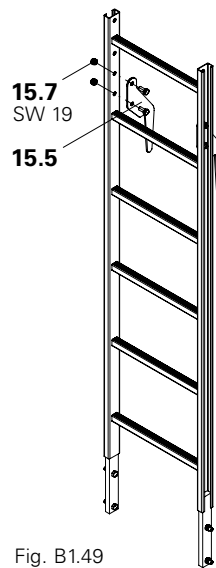

Fig. B1.49
4. If the bottom ladder is of a hook-on type, fix Ladder Hook (15.5) with bolts M12 x 25, SW 19 (15.7). (Fig. B1.49)